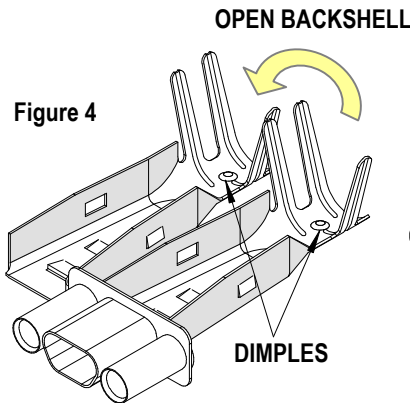

Figure 4
- Open the Backshell Sub-Assembly by pivoting one half as shown in Figure 4.